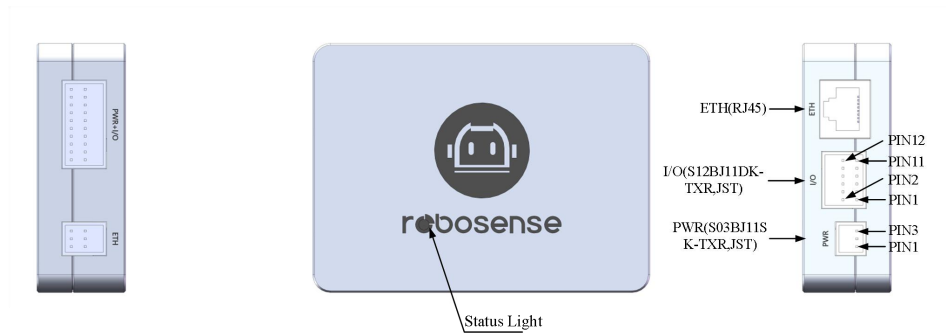

Figure 10 Interface Box Schematic
Figure 10 shows the schematic diagram of the interface box for Ruby Plus. The accessory interface box is equipped with a power indicator light and various interfaces, as shown in Figure 10 . It can be connected to power input, RJ45 Ethernet port, and GPS input cable (for the version with the aviation plug interface box, the cable length is 3 meters; for other cable length requirements, please contact RoboSense). The specifications of the interfaces on the power box are detailed in Table 7-Table 9.
- c) After powering on, under normal working conditions, the red and green power indicator lights on the LiDAR's Interface Box will be constantly on. The positions of the indicator lights are shown in Figure 10 .